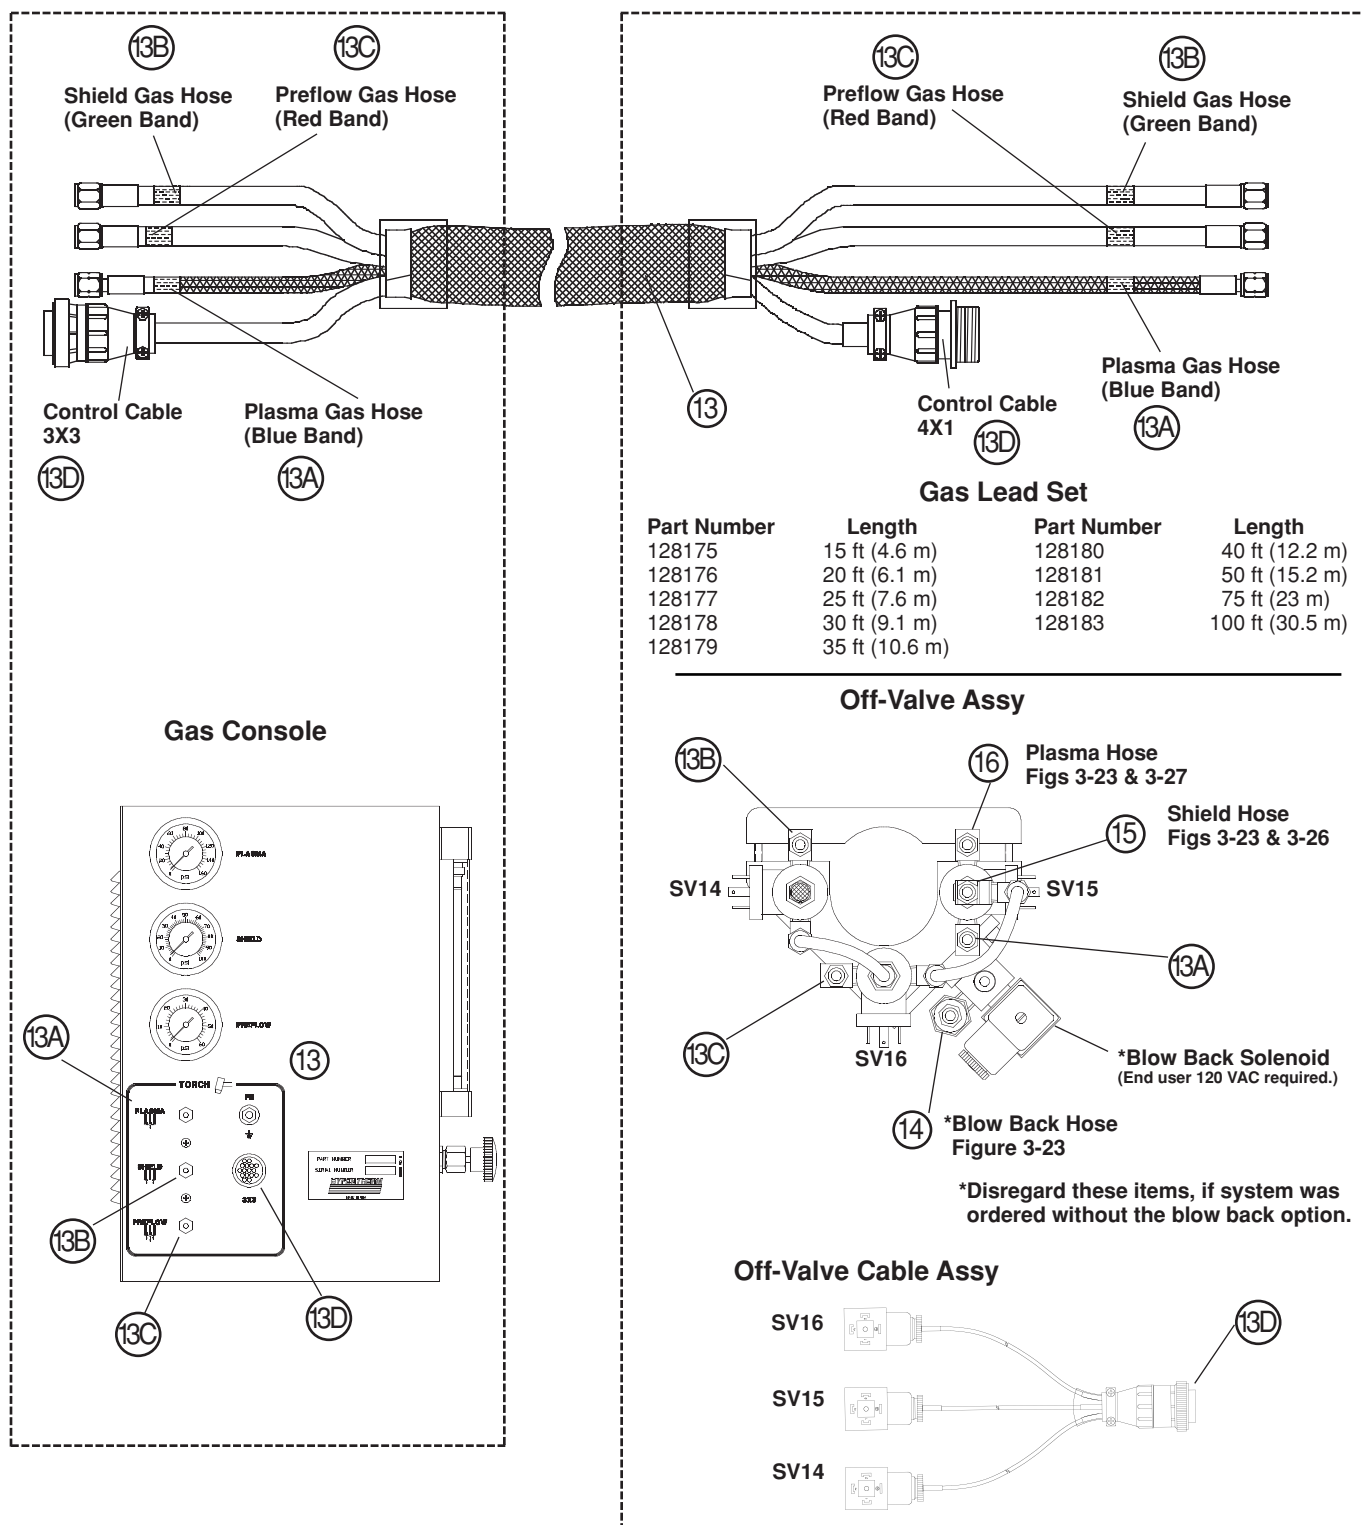

Figure 3-24 Gas Console to Off-Valve Assembly Interconnections
### Gas Console to Off-Valve Assembly Interconnections (Figure 3-24)
⑭ **\*Blow Back Hose (Figure 3-24)**